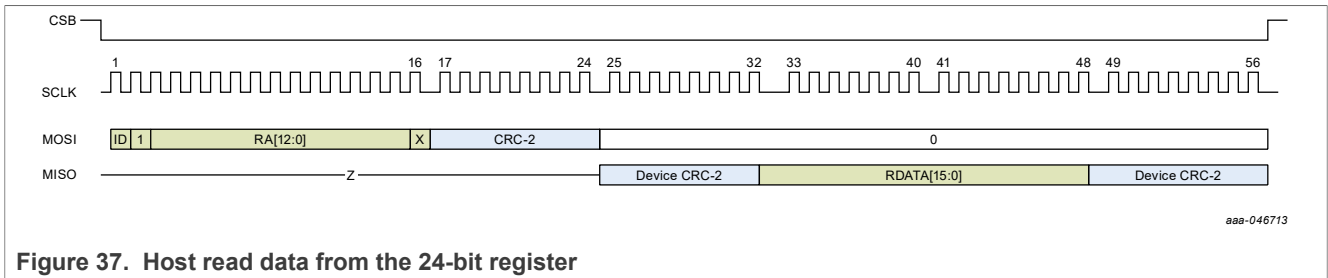

Figure 37. Host read data from the 24-bit register
Figure 37 shows host read data from the 24-bit register. The host sends the first CRC byte, calculated based on the first 16-bit word, which includes device ID bit, RW\_L bit, RA bits, and don't care bit (0). The second CRC byte is from the device to the host. It is calculated based on RDATA from the device to the host. Figure 37 also shows host read data from the 16-bit register.